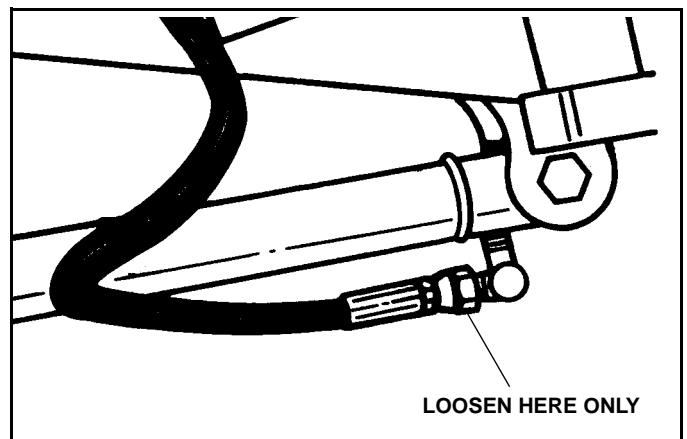

Figure 2-9
*NOTE: Do not loosen fitting in cylinder body. Loosen only at connection with hose.(See Figure 2-9)*